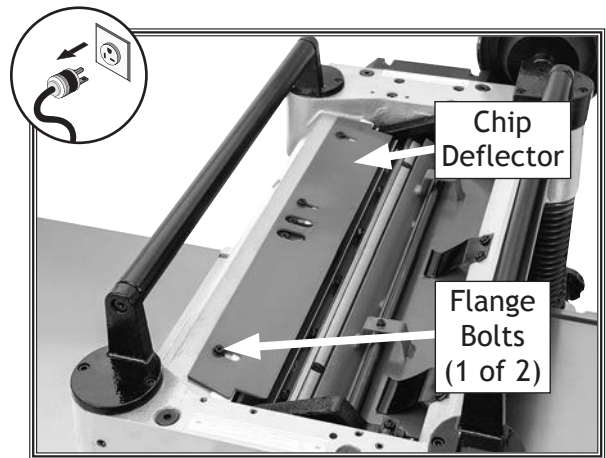

Figure 48. Example of chip deflector and mounting hardware.
3. Use cutterhead pulley to rotate cutterhead until a knife/insert reaches closest distance to chip deflector (see **Figure 48**), then measure distance between knife/insert and chip deflector.
4. If distance measured in **Step 3** is *not* equal to correct chip deflector gap setting, then loosen flange bolts (see **Figure 48**) that secure chip deflector and adjust gap to correct setting.